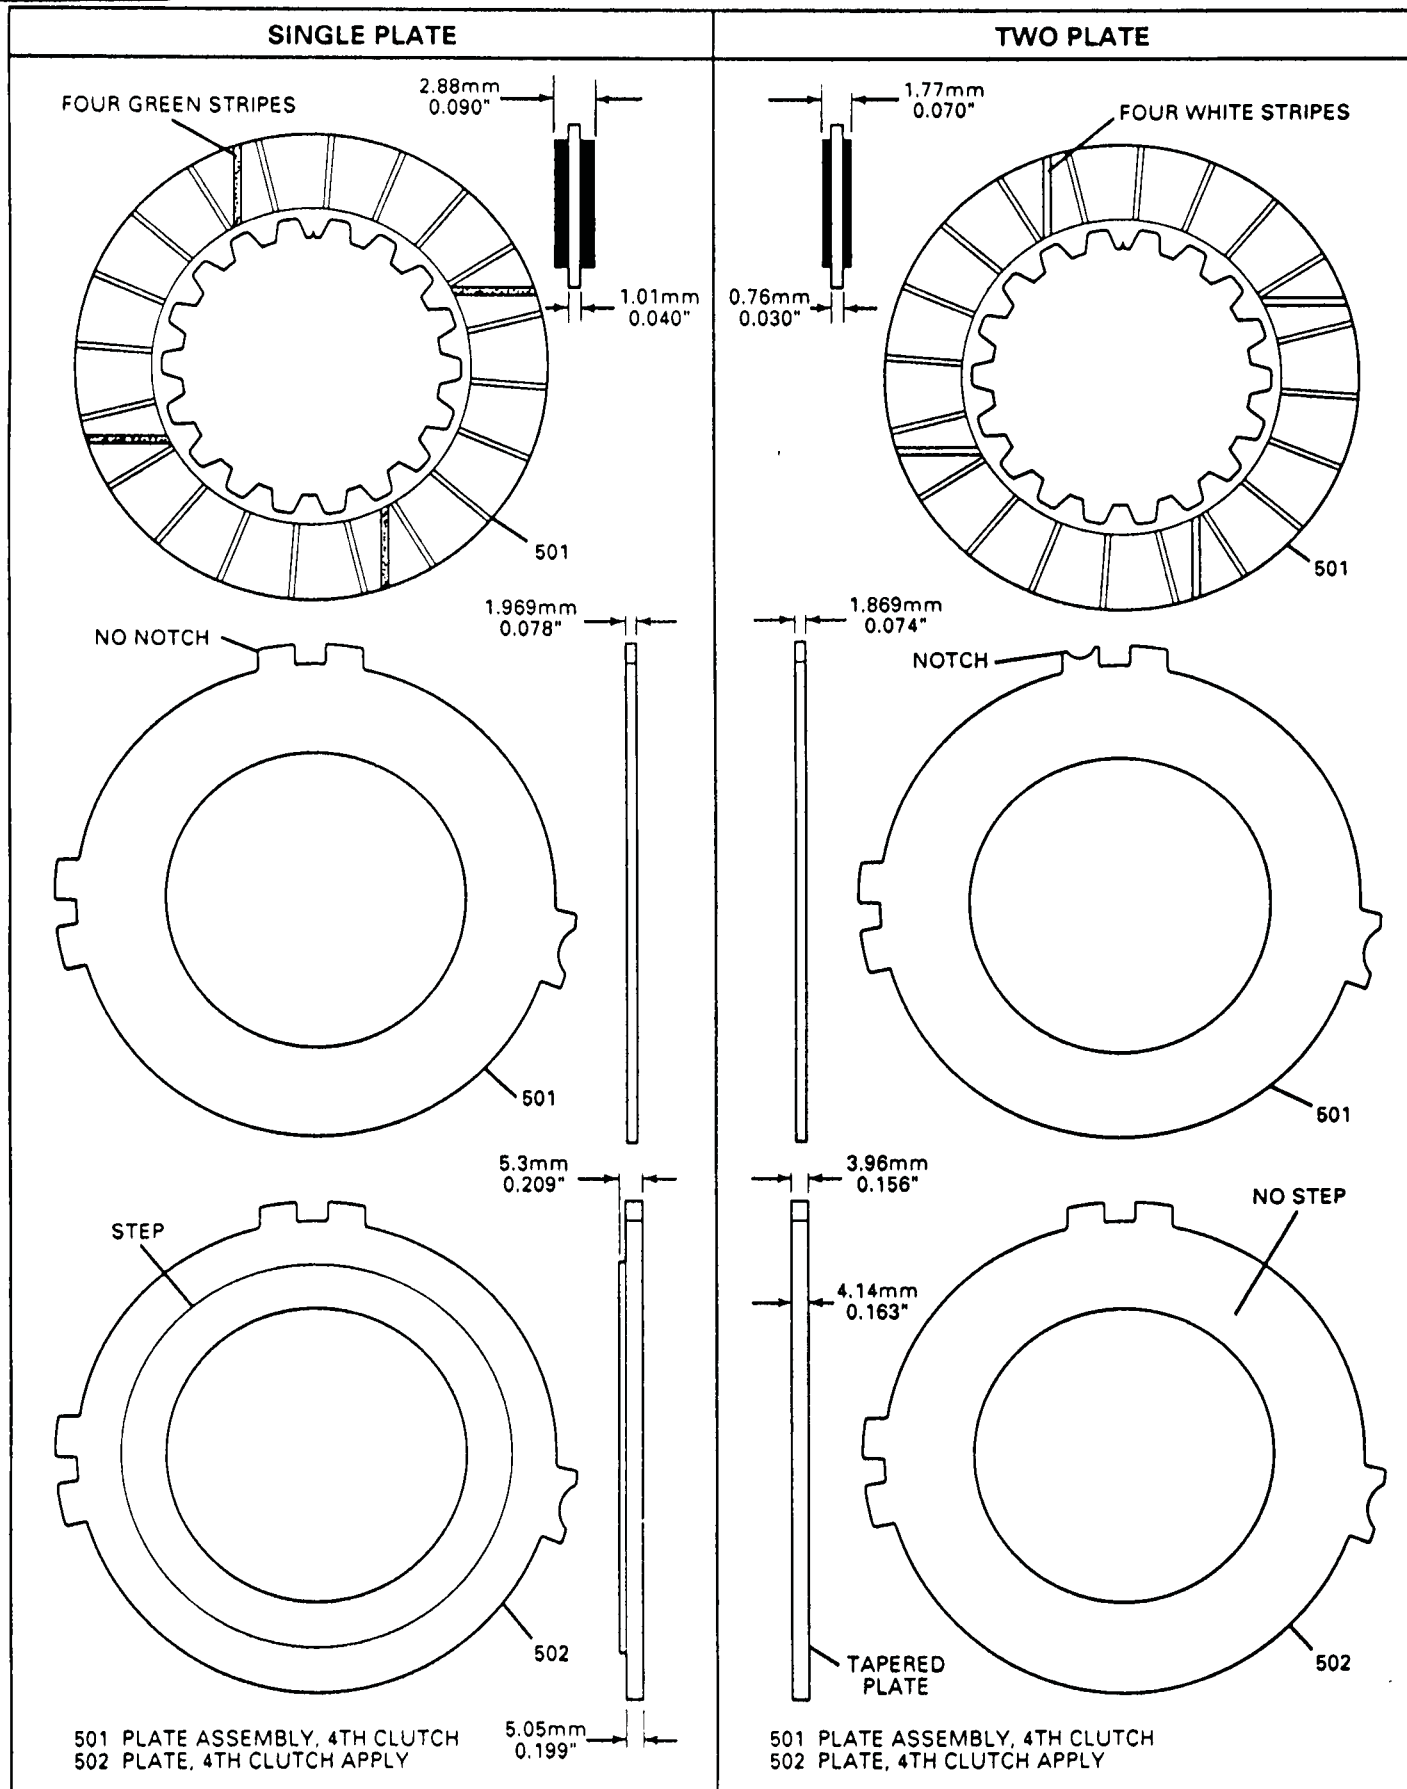

Figure 33
CHANGE: A new "Two Plate" 4th clutch assembly was used to replace the Single Plate 4th clutch assembly for SOME MODELS ONLY on the 1990 THM 440-T4 transaxles (See Figure 33).
- (1) 4TH CLUTCH LINED PLATES - Were made thinner by .020" than the previous lined plate, and can be identified by the four WHITE stripes, while the single plate lined plate has four GREEN stripes (See Figure 33). The Single Plate 4th Clutch is .090" thick, and the new "Two Plate" 4th Clutch plates are .070" thick.
- (2) 4TH CLUTCH STEEL PLATES - Were made thinner by .004" than the previous plates, and can be identified by a "Notch" cut into one of the tabs (See Figure 33). The single plate 4th clutch steels are .078" thick, and the new "Two Plate" steels are .074" thick.
- (3) 4TH CLUTCH APPLY PLATE - Was machined thinner than the previous apply plate, and the step was removed. Refer to Figure 33.